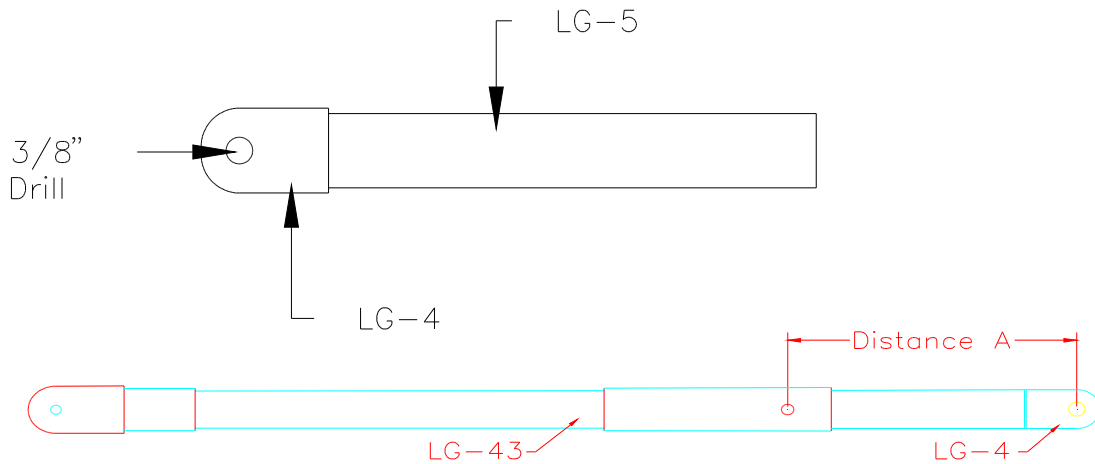

Figure 15.1.4
7) Measure the distance between the top hole you just drilled to the hole in the LG-43 assembly. Figure 15.1.4.